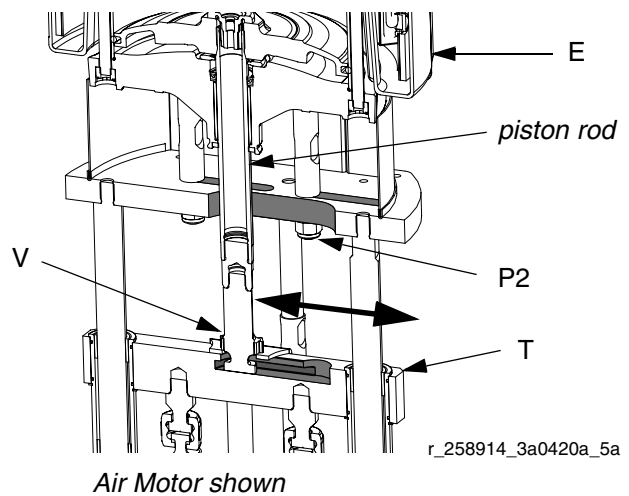

FIG. 7
5. Grab the piston rod and slide the position of the motor (E) until the indicator lines are aligned with your ratio. See FIG. 6 and FIG. 7.